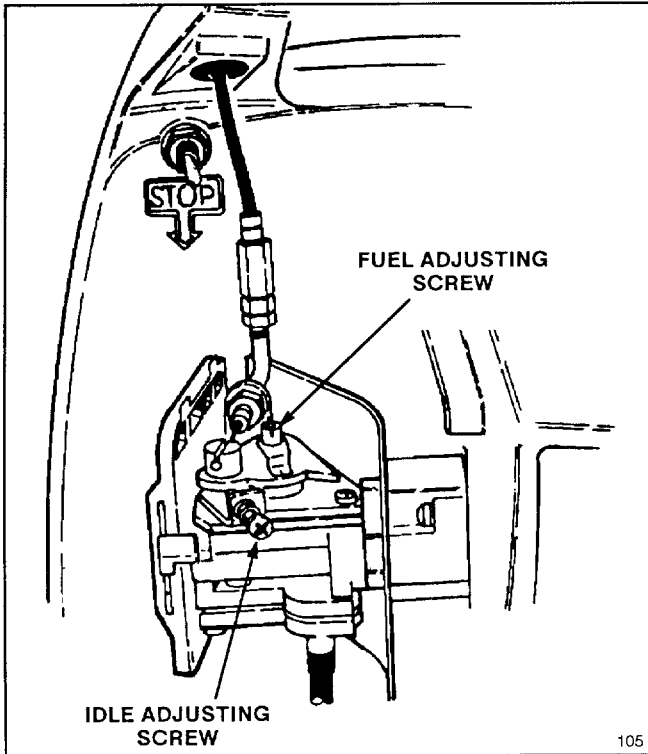

Figure 7
### ADJUSTING CARBURETOR (Fig. 7)
1. Fuel Adjusting Screw – Screw is set in the middle of five notches. If adjustment is too rich, turn screw to the right. If adjustment is too lean, turn screw to the left (Fig. 7). Adjust while engine is at low speed.
2. Idle Speed Adjusting Screw – Adjust screw to attain idle speed of 3000–3200 RPM (Fig. 7).